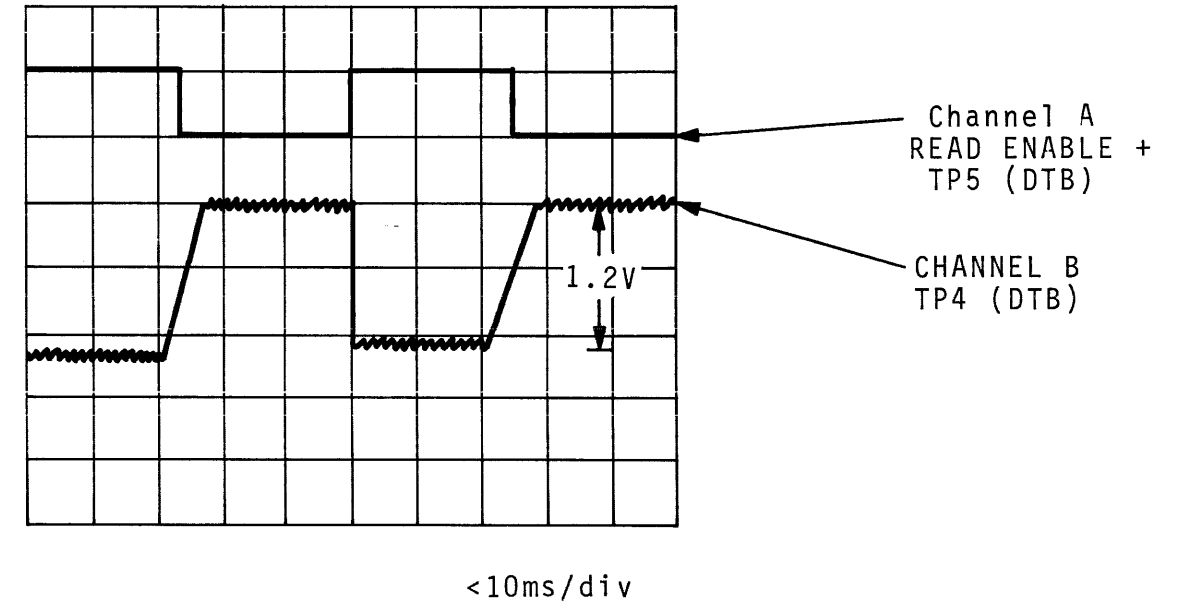

Figure 7-12. TP4, Data Translator Board
8. Adjust R19 for a negative 1.2 volts \pm 100 mv on TP4 during read time. (See Figure 7-12).
In Figure 7-12 it is possible to adjust TP4 180° out of phase. To avoid this, be sure that when channel A (Read Enable +) is positive that channel B, TP4, is negative.